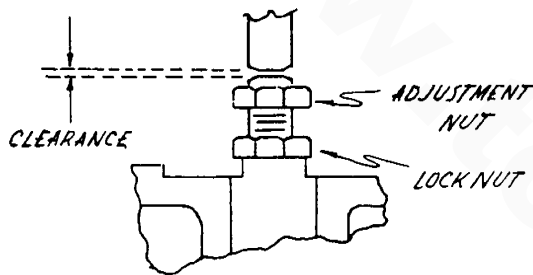

Fig.70 Valve Tappet - Adjustment
b. Two types of tappet adjusting screws are used: one is of the self-locking type and the other has a locking nut for holding the adjusting screw in place. Before making the adjustment, this locking nut must be loosened and the adjusting nut held in place when it is re-tightened after the adjustment is completed. See Fig. 70.